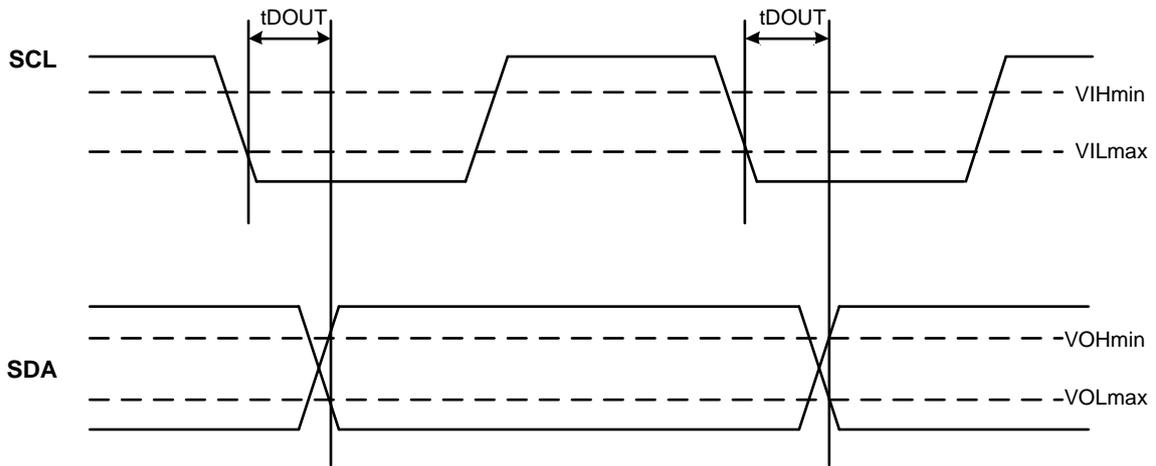

Figure 19. I³C Basic Bus AC Data Output Timing Parameter Definition
8. See Figure 19. I³C Basic Bus AC Data Output Timing Parameter Definition